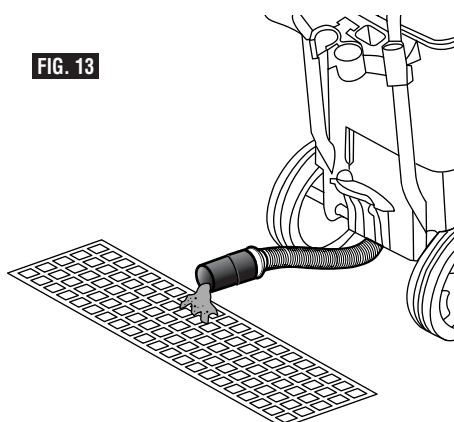

FIG. 13
4. Detach drain hose from stored position on vacuum and lay hose on the ground (Fig. 13).